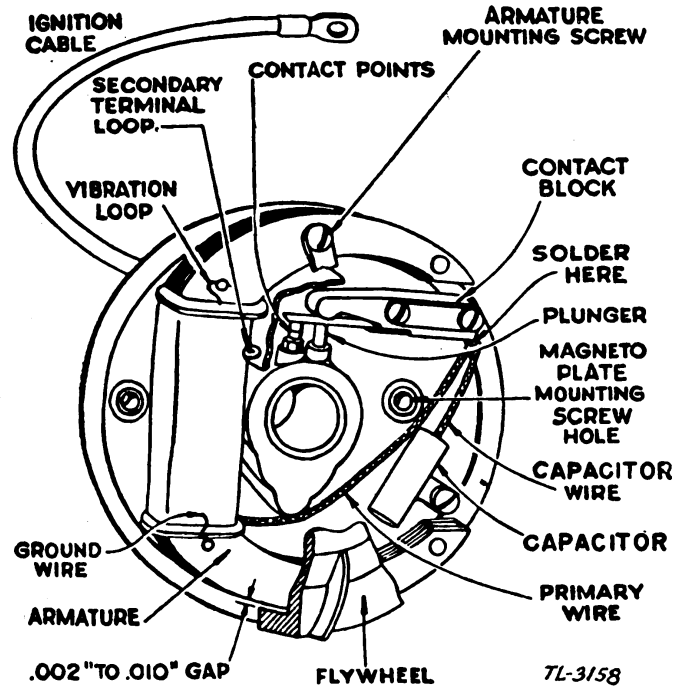

FIGURE 10. Complete magneto assembly.
**a. Magneto** (fig. 10). (1) The spark is produced by a high-tension magneto consisting of an armature, capacitor, contact points, and rotating magnet contained in the flywheel. The magneto, as well as the spark plug cable and the spark plug, must be in good condition and properly adjusted if the engine is to operate satisfactorily.
(2) To determine whether an adequate spark is being delivered by the magneto, remove the ignition cable from the plug. Hold the ignition cable terminal about  $\frac{1}{8}$  inch from any metal part of the cylinder head. (Keep the hand on the insulated part of the cable to avoid a shock.) Turn the motor with the starter cord; if the spark jumps this gap, the
**c. Spark plug cable.** The insulation on the spark plug cable must be kept free of oil or water, and must not be broken. Any of these conditions may cause a ground connection to the engine and will interfere with the ignition. Solder the spark plug cable to the secondary terminal (a small brass plate coming out of the coil). Avoid touching the coil with the hot soldering iron (fig. 10). The cable is shielded to prevent radio interference.
**c. Removing and replacing armature** (fig. 10). **(1)** Remove the armature lead wire from the contact spring, and the high-tension ignition cable from the secondary terminal loop in the armature. (Both of these wires are soldered.) Save as much of the hydrolene as possible, so that the high-tension terminal can be insulated when the new armature is assembled. Do not use battery compound or tar, since either of these substances will melt and run over the entire magneto assembly. Unscrew the two armature mounting screws, and pry the armature loose with a screw driver.